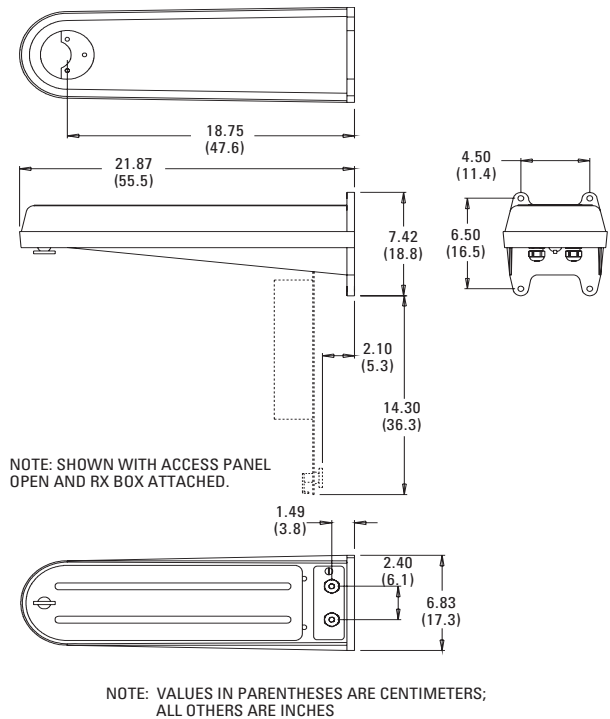

Figure 2. LWM41 Dimension Drawing
1. If you are installing the LWM41 mount on a wall, drill four mounting holes (refer to Figure 2 on page 3 for hole placement).